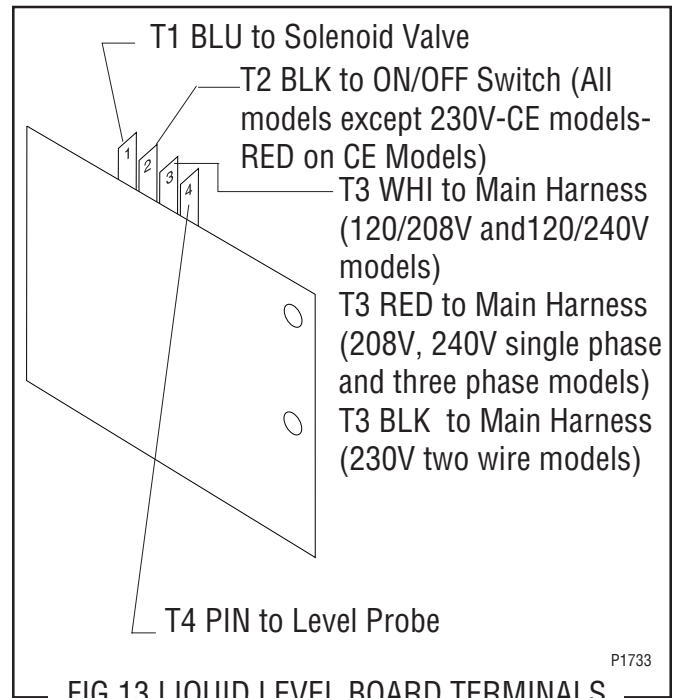

FIG.13 LIQUID LEVEL BOARD TERMINALS
- Refer to Fig. 13 and reconnect the wires.